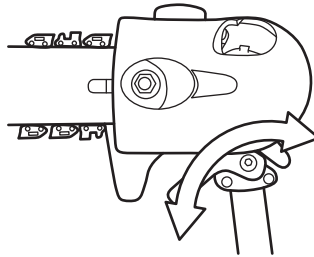

Fig. 20b
2. Adjust the pruner head to required position and then release the locking lever (D8). (See Fig. 20b)